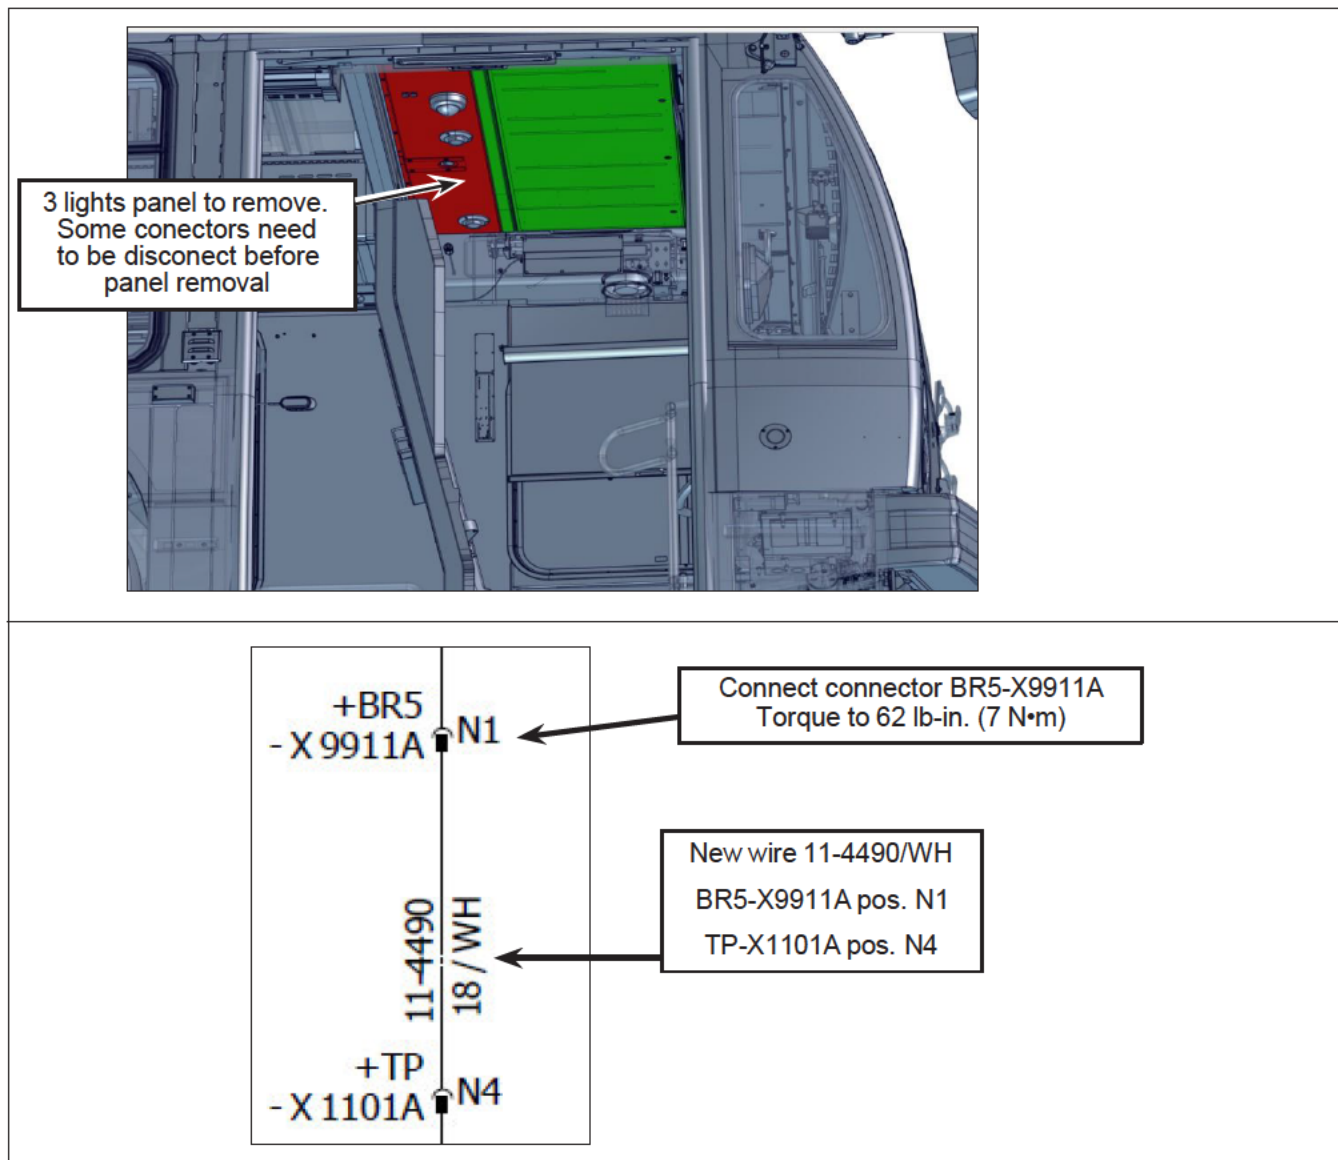

Figure 12 - Panel to Remove and New Wire 11-4490 Installation and connector BR5-X9911A torque value
- 1.29. Remove the 3-light panel locate above the driver's seat. Retain the panel and hardware. See Figure 12.
- 1.31. Connect wire 11-4490/WH (available in wire kit N632001301) in connector BR5-X9911A and in connector TP- X1101A. See Figure 12.
- 1.32. Connect connector BR5-X9911A and apply torque. See Figure 12 for torque value.
- 1.41. Install and connect the removed 3 lights panel with the retained hardware. See Figure 12.